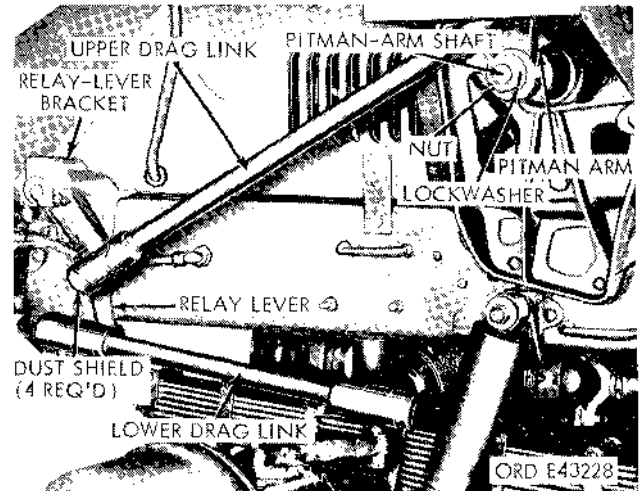

Figure 2-207. Steering linkage under left fender.
(3) Install the horn bottom assembly (para 2-156).
**a. Removal (fig. 2-207).**
(1) Remove the nut and lockwasher securing the pitman arm to the left end of the pitman arm shaft.
(2) Pull the pitman arm from the shaft.
(3) Disconnect the rear end of the upper drag link from the pitman arm ball stud (para 2-218).
**b. Installation (fig. 2-207).**
(1) Connect the rear of the upper drag link to the pitman arm ball stud (para 2-218).
(2) Set the front wheels in a straightahead position, and set the steering wheel in the mid-position.
(3) Position the pit man arm on the splined shaft with the arm pointing upward.
(4) Push the pitman arm onto the shaft until the nut can be installed on the threaded end of the shaft.
(1) Remove the dust shield (fig. 2-207) from the pitman arm end of the upper drag link.
(1) Place the rear end of the upper drag link (fig. 2-207) on the pitman arm ball stud, and screw the adjusting plug (fig. 2-208) into the end of the drag link, but do not tighten it.
(2) Place the front end of the upper drag link on the upper ball stud on the relay lever (fig. 2-207). Screw the adjusting plug into the end of the drag link, but do not tighten it.
(3) Install the dust shield (fig. 2-207) at both ends of the drag link, and lubricate the drag link.
*a. Removal.* Remove the lower drag link (fig. 2-207) from the ball studs at the relay lever and steering arm as described in paragraph 2-218a.